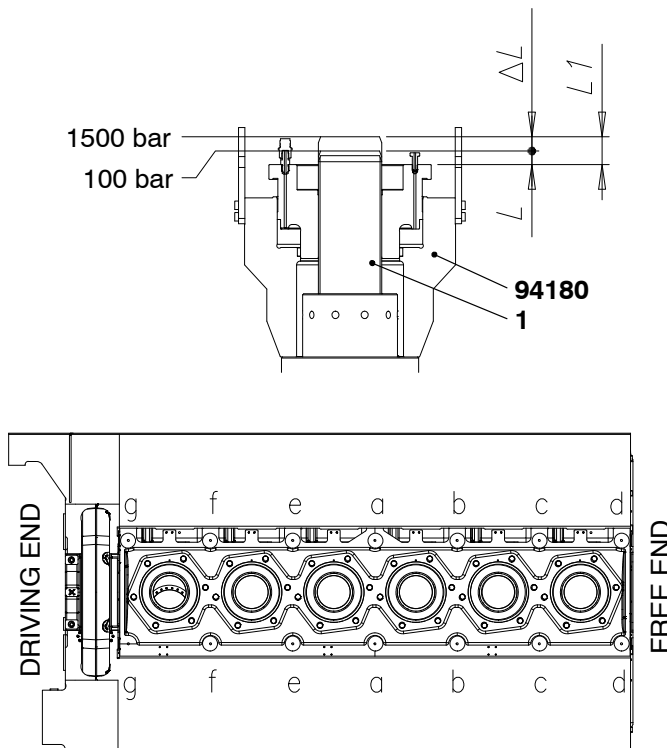

Fig. 3
- 1) Put the two pre-tensioning jacks (94180, Fig. 3) on the tie rods (1).
- 3) Record the length of the tie rods (1) at L.
- 5) Record the extension of the tie rod (1) at L1.
**Note:** The extension  $\Delta L$  of the tie rod (1) must be 14 mm to 16 mm ( $L1 - L$ ).